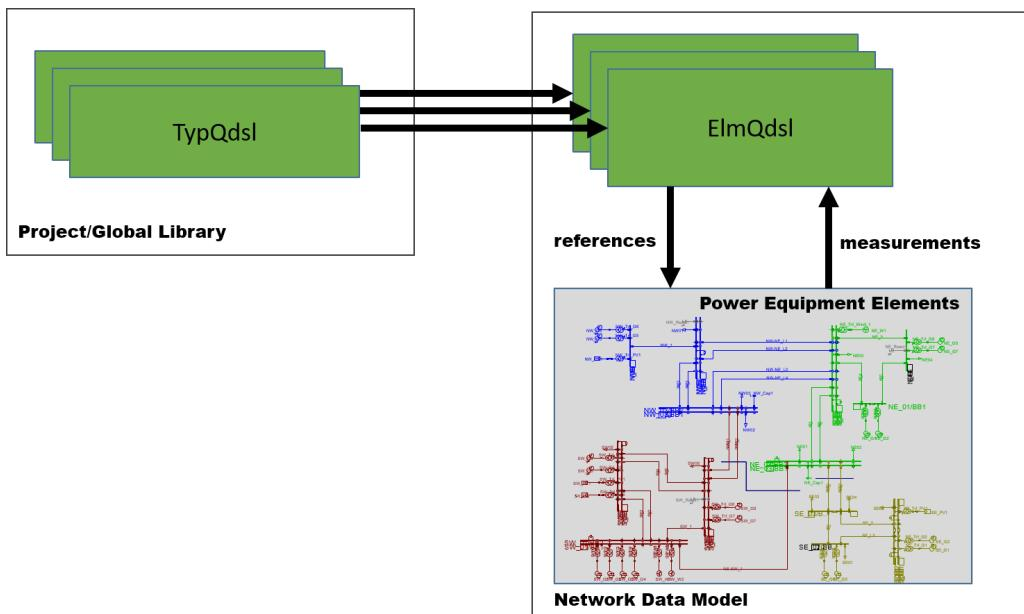

Figure 28.5.1: Integration of *QDSL models* within the *PowerFactory* project
*PowerFactory* provides seamless integration of *QDSL models* within the Load Flow calculation and the *Quasi-Dynamic Simulation* engines. This means that once a *QDSL model* is implemented it will be active for both Load Flow (*ComLdf*) and *Quasi-Dynamic Simulation* (*ComStatsim*) commands and any other command which subsequently makes use of any of the two. A high level overview of the integration of the user defined models within a *PowerFactory* project is shown in Figure 28.5.1. The user is provided a high degree of flexibility in terms of interaction with the power system model via the comprehensive scripting functionality. Any number of *QDSL models* can be created. Each model may control one or several network elements. Moreover, each model may measure power system quantities of one or several network elements. This allows development of complex control schemes applicable for all load flow based calculations.